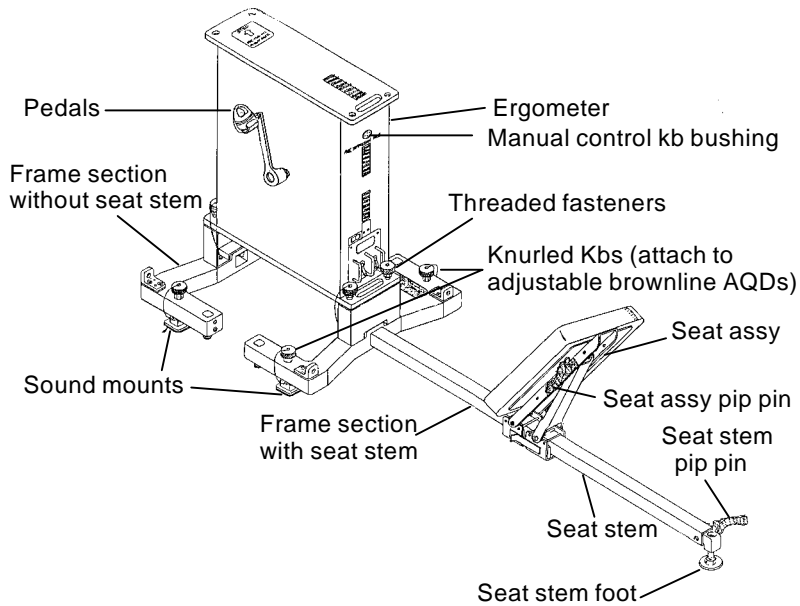

Figure 3-2.- Ergometer.
7. Mount both frame sections loosely to AQDs on seat floor studs (fig 3-2) using Knurled Kbs (four)
15. Install pedals on cranks using Wrench from Ergo Acc Bag, attach cranks with pedals to Ergometer, tighten with Wrench (fig 3-2)
2. Screw Manual Control Kb into bushing on Ergometer (fig 3-2)